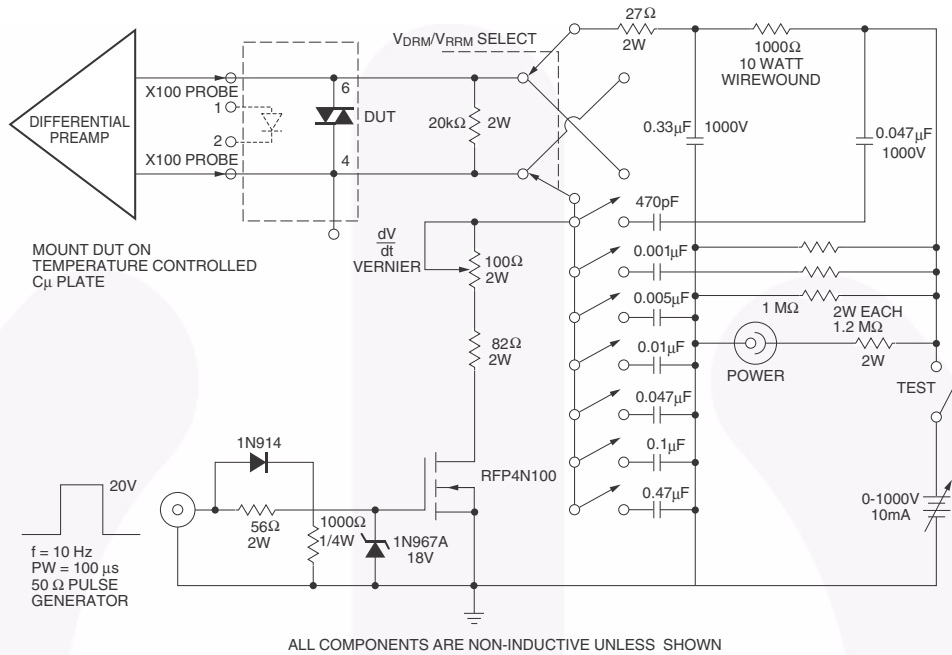

Figure 11. Circuit for Static $\frac{dv}{dt}$ Measurement of Power Thyristors
- This is static dv/dt. See Figure 11 for test circuit. Commutating dv/dt is a function of the load-driving thyristor(s) only.